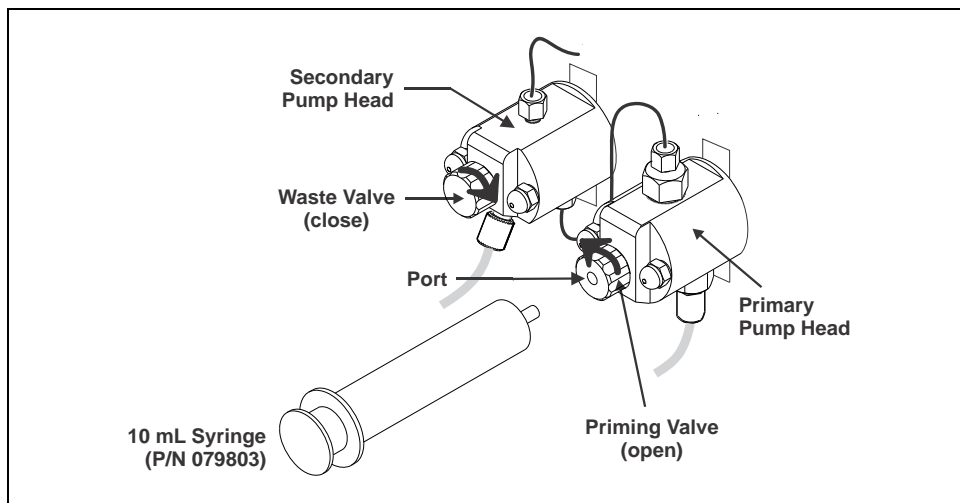

Figure 5-31. Priming the Eluent Lines
2. Connect a 10 mL syringe (P/N 079803) to the priming valve port on the primary pump head (see Figure 5-31).